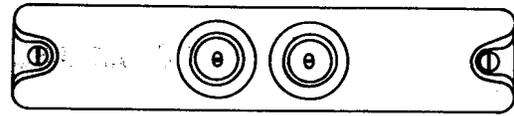

Fig. 5—358A or C Jack
2.05 358A and C: These headset jacks (Fig. 5) are used in straight forward trunking installations to enable the "B" operator to manually connect a headset to the called incoming trunk, in the event that the apparatus, which normally performs this function, should fail or where automatic listening is not economical. These jacks mount on the face of the switchboard across the stile strip, between alternate pairs of "B" operators' positions. These jacks are also furnished with spacers for mounting on 10 and 1D-type switchboards.